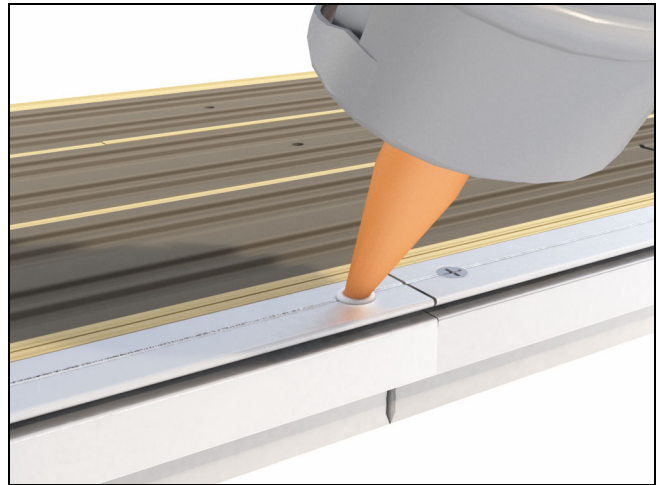

Figure 25
7. Inject sealant into the open hole on the frame cladding splice key until squeeze out occurs. Insert #7 x 5/8" flat head screw into hole. See figure 25.